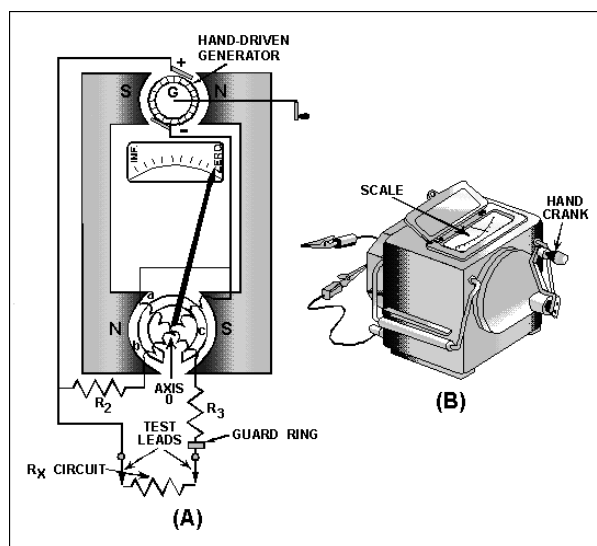

Figure 1-36.—A megger internal circuit.
An instrument called a MEGOHMMETER (MEGGER) is used for these tests. The megger (fig. 1-36) is a portable instrument consisting of two primary elements: (1) a hand-driven dc generator, G, which supplies the high voltage for making the measurement, and (2) the instrument portion, which indicates the value of the resistance being measured. The instrument portion is of the opposed-coil type, as shown in figure 1-36(A). Coils a and b are mounted on the movable member c with a fixed relationship to each other, and are free to turn as a unit in a magnetic field. Coil b tends to move the pointer counterclockwise, and coil a tends to move the pointer clockwise.
The external view of one type of megger is shown in figure 1-36(B). Navy meggers are usually rated at 500 volts. To avoid excessive test voltages, most meggers are